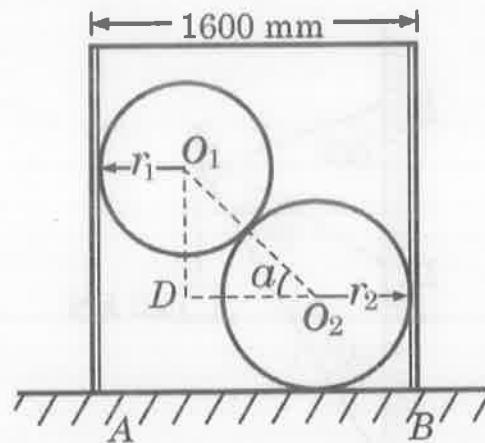

Fig 6
- (b) A hollow right circular cylinder of radius 800 mm is open at both ends and rests on a smooth horizontal plane as shown in Fig. 6. Inside the cylinder, there are two spheres weighing 1 kN and 3 kN and with radii 400 mm and 600 mm respectively. The lower sphere rests on the horizontal plane. Neglecting friction, find the minimum weight W of the cylinder for which it will not tip over.